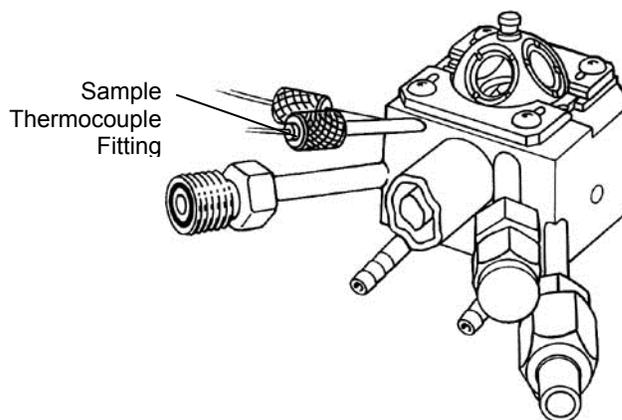

Figure 31 • Sample Thermocouple Fitting
- Loosen the sample thermocouple fitting (see Figure 31).